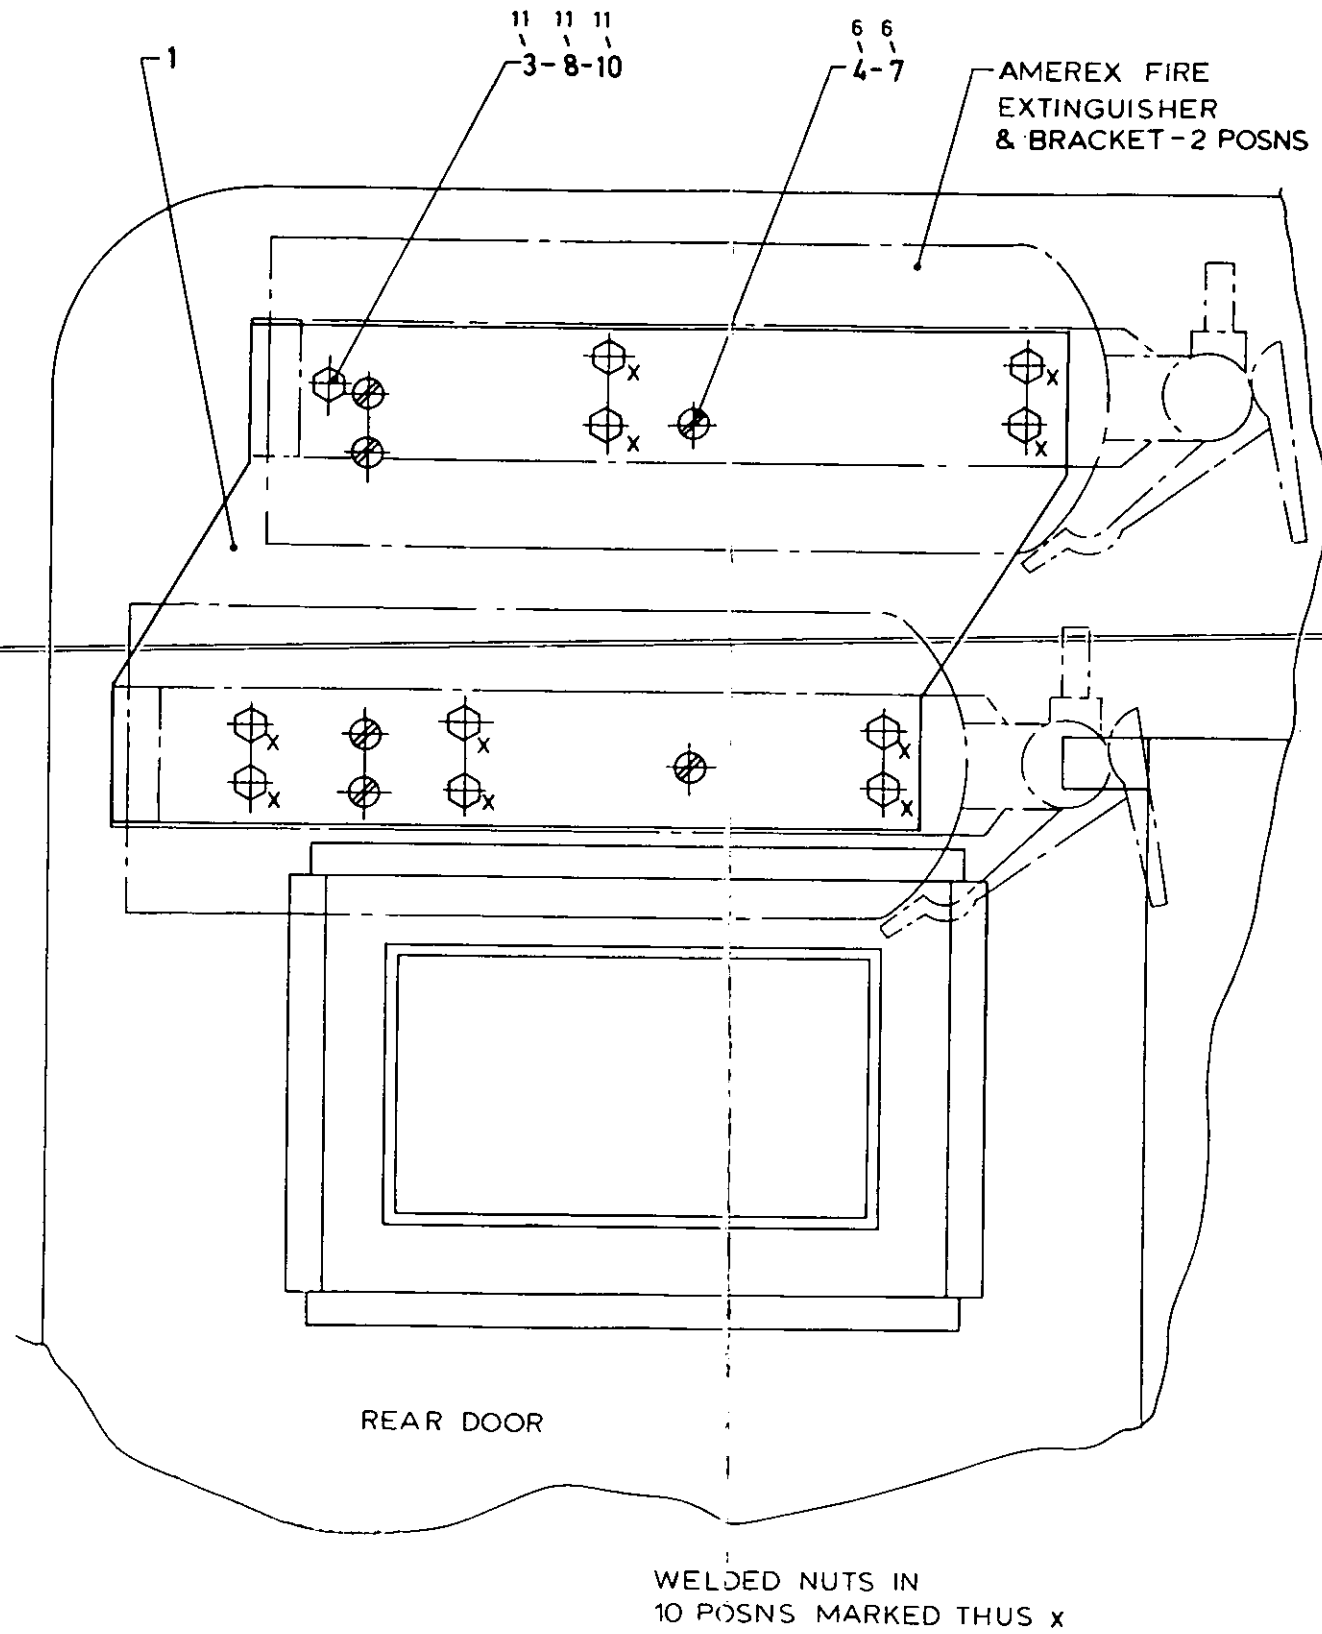

Fig 2 Fire extinguisher rear door
9.4 Attach fire extinguisher brackets (6MT1/4210-99-839-9904) to mounting plate (item 1) see Fig 2, using screws, washers and nuts (items 3, 8 and 10) and weld on nuts.